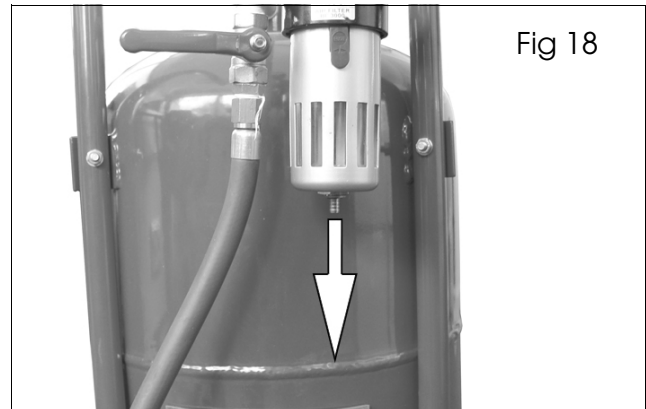

Fig 18
1. Drain the air filter by pulling down on the drain plug until all the water comes out, see Fig 18.